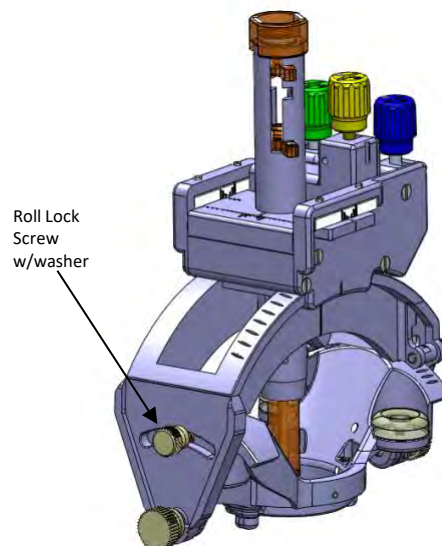

Figure 6: Roll Lock Screw w/washer
10. Remove the Roll Lock Screw w/washer from the SMARTFrame XG package to pre-mount in SMARTFrame XG. Screw in partially to the appropriate location on the SMARTFrame XG. See Figure 6. Ensure the Roll Lock Screw w/washer is not tight. This screw will be tightened later in the procedure.
- The Roll Lock Screw w/washer must be tightened after the final roll adjustment is complete. **See Figure 6.** The Roll Lock Screw w/washer must be loosened, for subsequent roll adjustments.